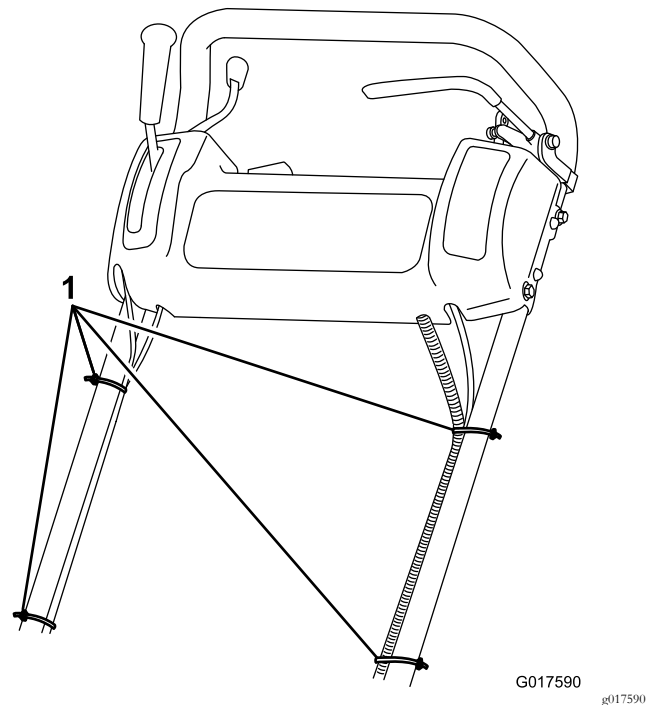

Figure 4
7. Secure the cables and the wiring harness to the handle with the cable ties (Figure 4).